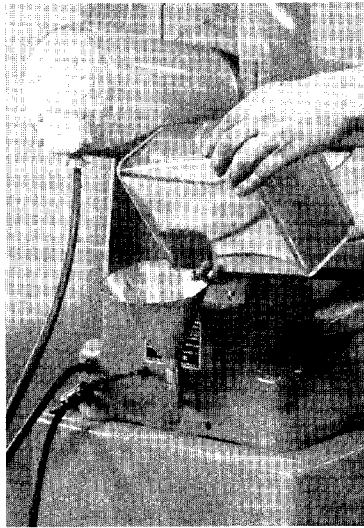

Figure 5
**NOTE:** Check oil reservoir level (see cup at rear of machine.) If needed, add way oil to bring level just above half way. (Fig. 5)